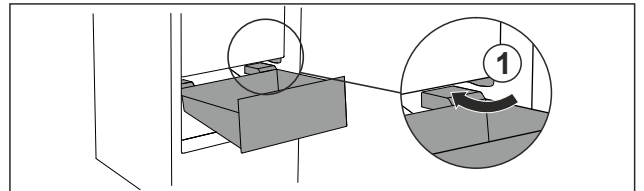

Fig. 116
- Guide drawer in at an angle around the stoppers Fig. 116 (1).